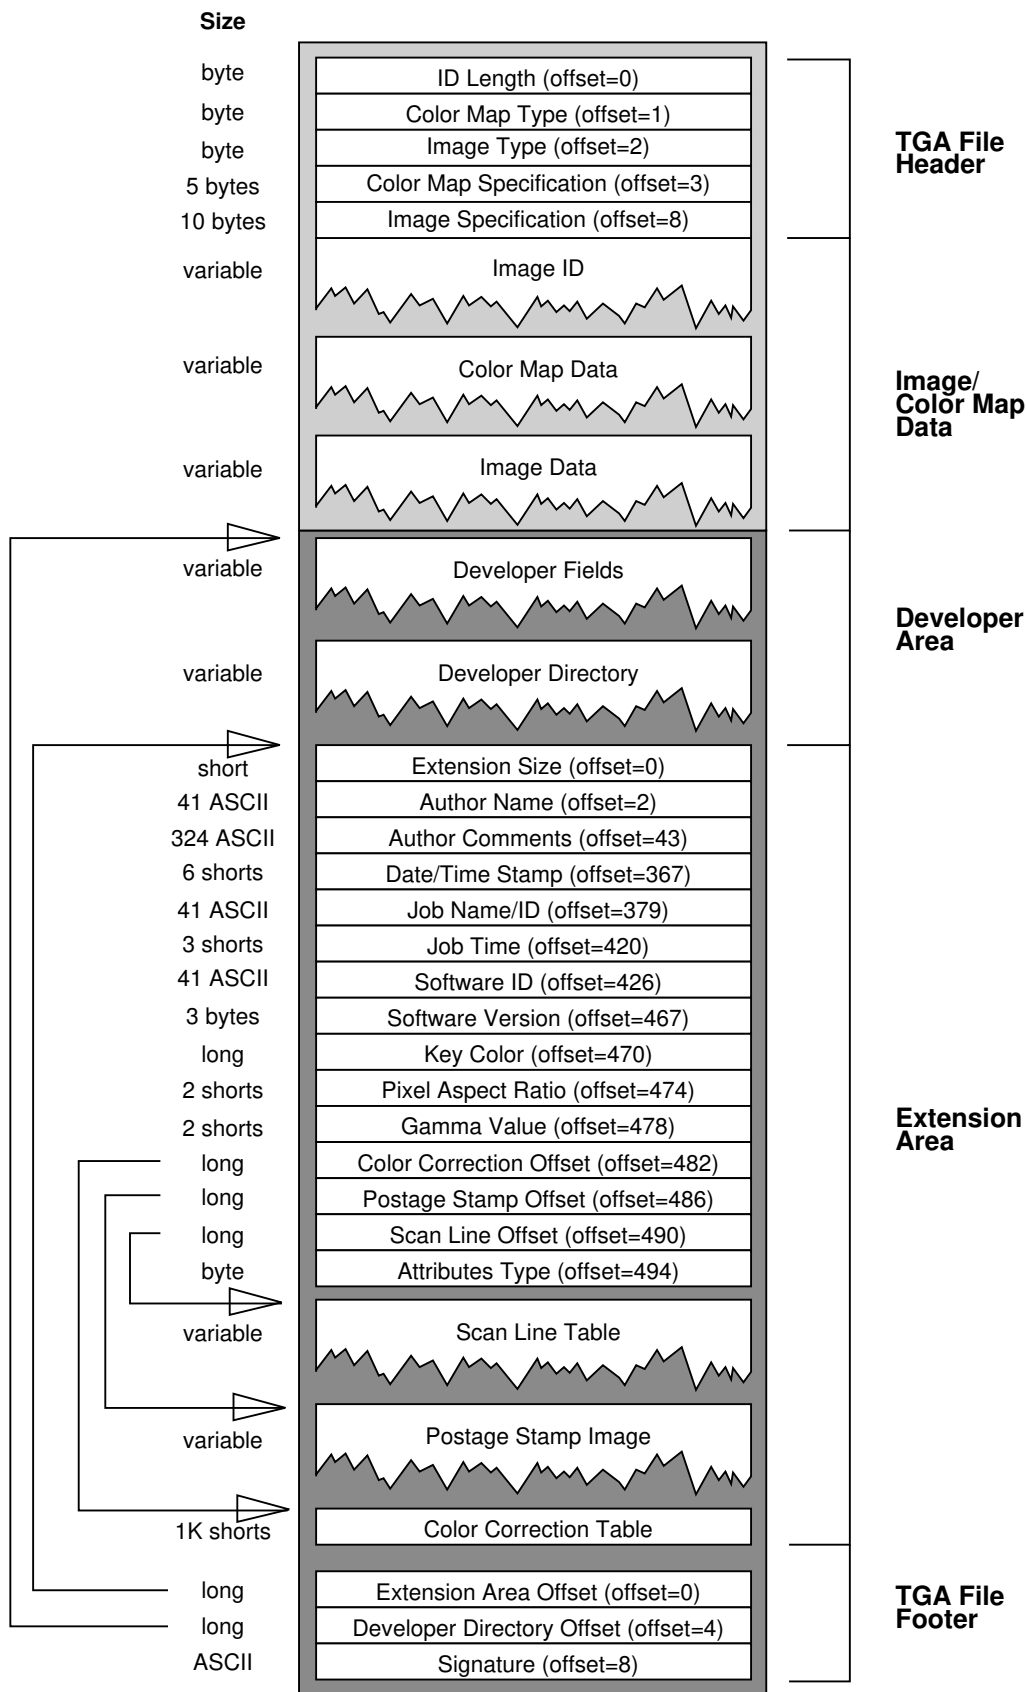

Figure 1 - TGA File Format
While Figure 1 demonstrates one possible arrangement for the various data blocks within a TGA File, other arrangements are possible since many of the data blocks are referenced by an offset position from the beginning of the file. In particular, developers may find it easier to create the file if the Scan Line Table, the Postage Stamp Image and the Color Correction Table are located before the Extension Size field (Field 10). The Truevision TGA File Format comprises 5 areas, each of which contains one or more fields of fixed or variable length. The 5 file areas are: (1) TGA File Header, (2) Image/ColorMap Data, (3) Developer Area, (4) Extension Area and (5) TGA File Footer.